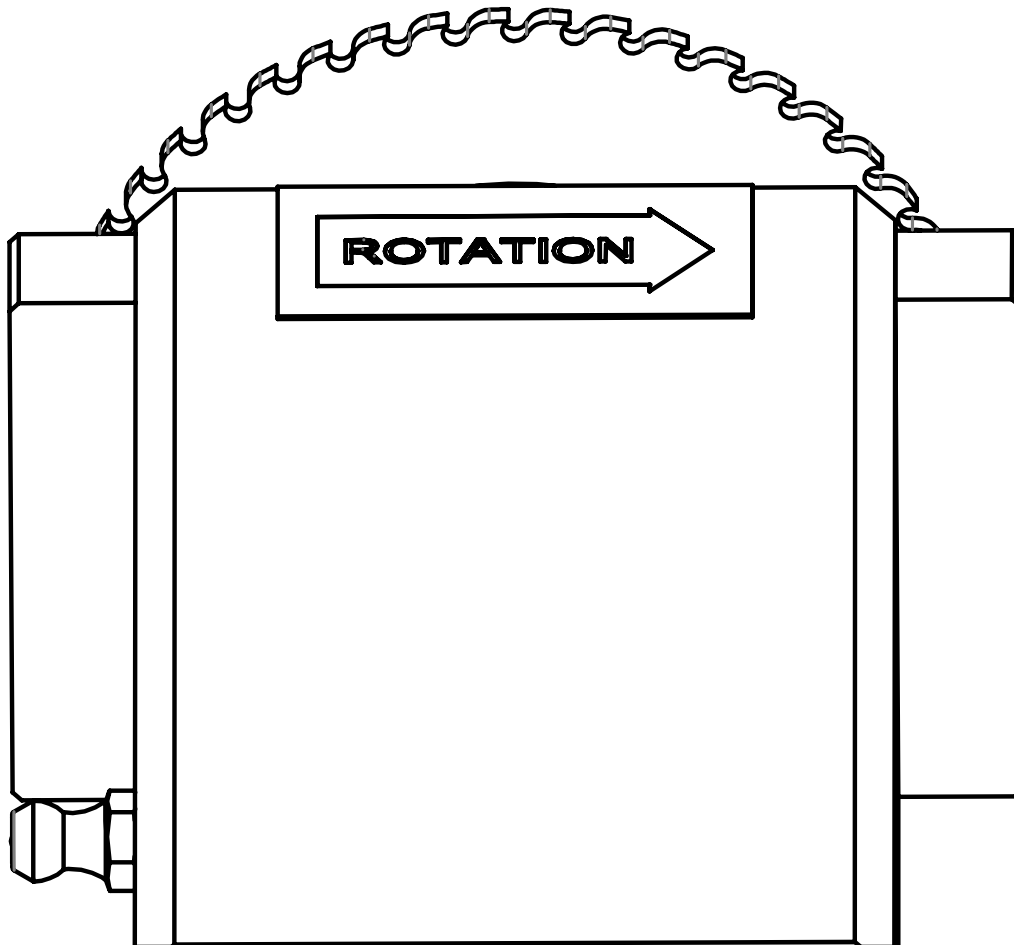

Figure 5: Sawblade Direction
8. Install the saw blade suggested in Section 11 for the material to be cut. Use the supplied wrench to tighten the flange nut making sure the saw blade teeth are pointed in the correct direction. (As shown in Figure 5)